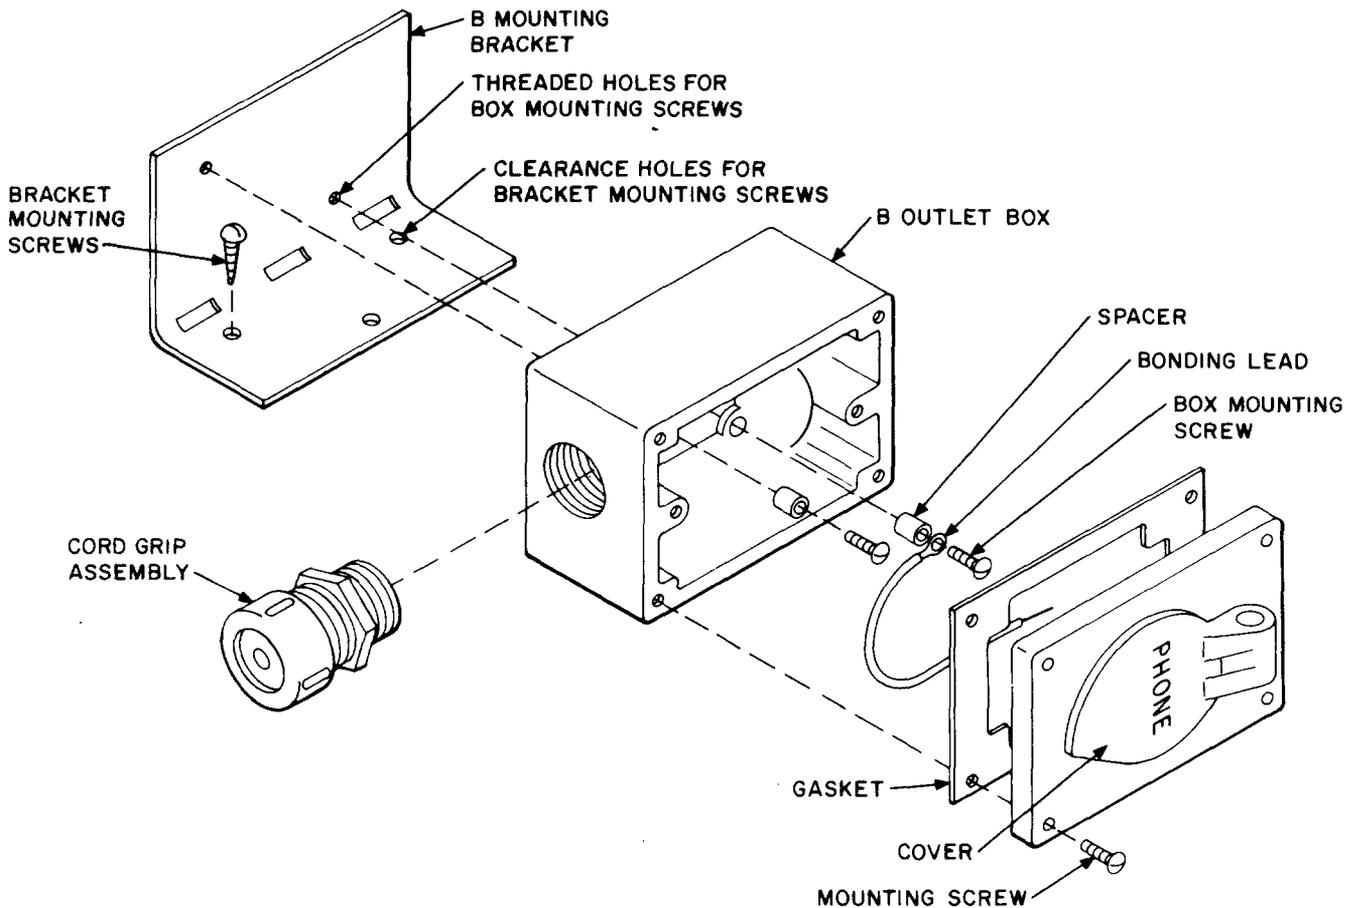
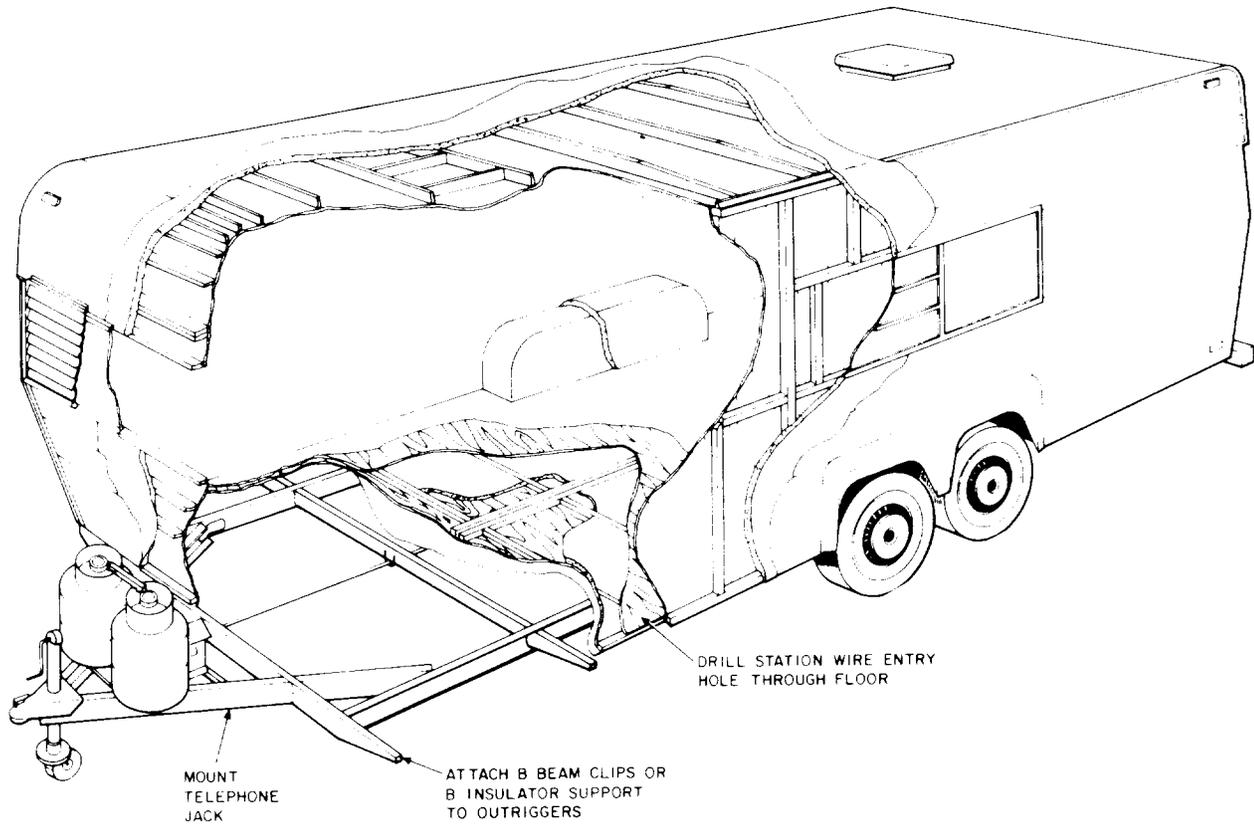
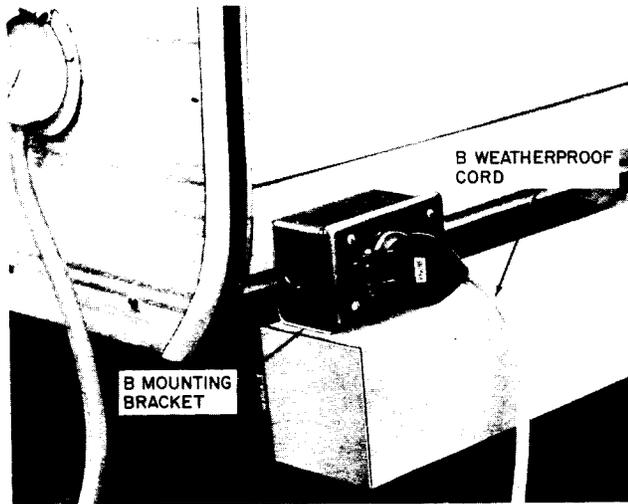

Fig. 10—Assembly of B Weatherproof Male Jack to B Outlet Box and B Mounting Bracket
Fig. 18—Typical Recreational Trailer Construction
Fig. 20—B Weatherproof Male Jack Mounted on Rear Bumper of Trunk Camper or Motor Home
the bracket and two stainless steel screws with spacers for mounting the B outlet box on the B mounting bracket. The bracket can also be connected to the trailer frame or tongue using two stainless steel straps. The straps pass through the slots in the mounting bracket and connect around the frame. A pigtail lead is included to connect between the center ground terminal of the B weatherproof male jack and one of the outlet box mounting screws to provide a ground bond to the vehicle frame (Fig. 10).
- One B mounting bracket used to mount outlet box on vehicle (Fig. 10)
mounted on the same side as the other utilities with the jack on the outside (Fig. 18 and 19). **Warning: Bumpers on some recreational vehicles are used to store sewage hoses. Mounting screws that extend beyond the bumper surface may damage the hose or prevent the hose from entering.** For truck campers and motor homes, the customer will use the template to drill holes on the left side of the rear bumper (see Fig. 20). The outlet box should be mounted so it does not extend beyond the edge of the bumper. The cord grip assembly may be attached to either end depending on existing space. The telephone installer will wire from the connecting block or the telephone set in the vehicle to the B outlet box on the trailer hitch or bumper. The bonding lead provided with the bracket must be connected as shown in Fig. 10 to provide a ground bond to the vehicle chassis.